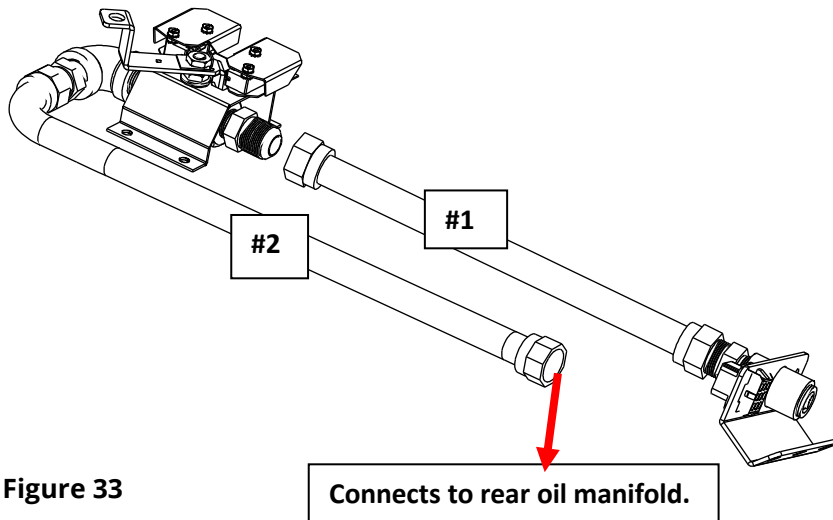
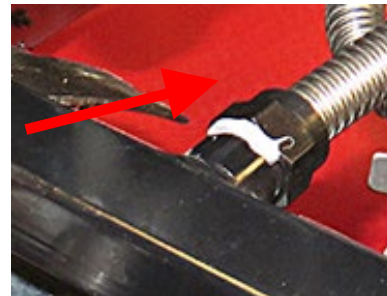

Figure 33
Figure 37
31. Insert the dispose valve assembly through the left side of the fryer (see Figure 33). **Note: #1 flexline will be attached later.** Align the dispose valve assembly bracket with the studs inside the fryer. Do not attach the assembly yet.
36. Using Figure 33 on the previous page as a guide, route and connect the flexline #2 to the open oil return port from the previous step (see Figure 37).